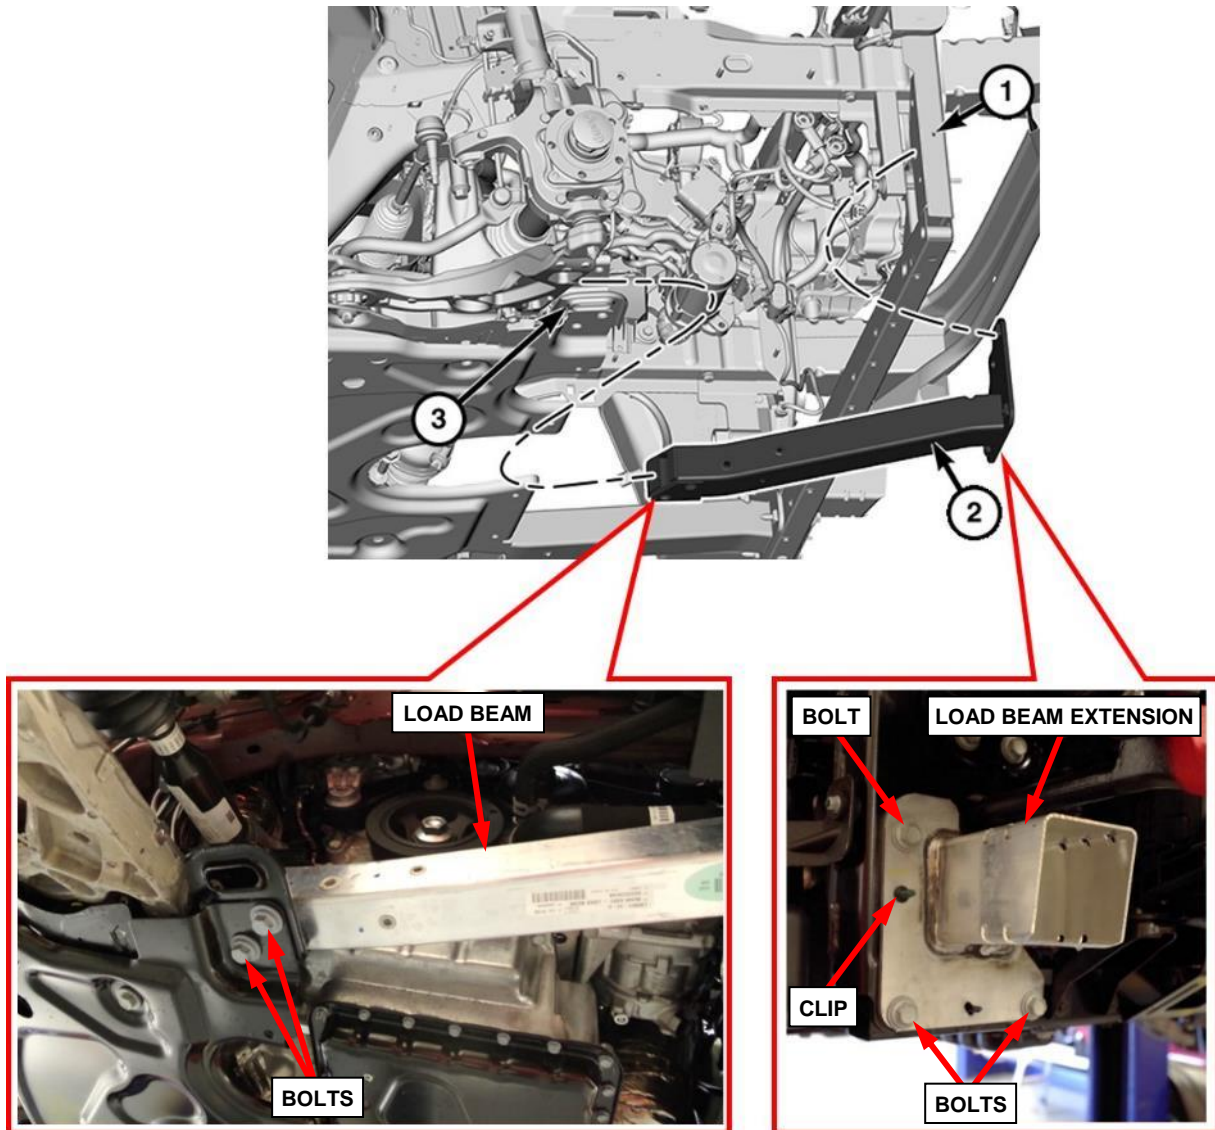

Figure 29 – Load Beam
- 35. Remove the three bolts securing the lower load beam extensions to the radiator support (1). If the load beam extension is retained by clips, it is not necessary to remove the load beam extension from the vehicle (Figure 29).
- 36. Remove the two bolts securing the lower load beam (2) to the cradle (3) (Figure 29).
- 37. Remove the lower load beams (2) (Figure 29).